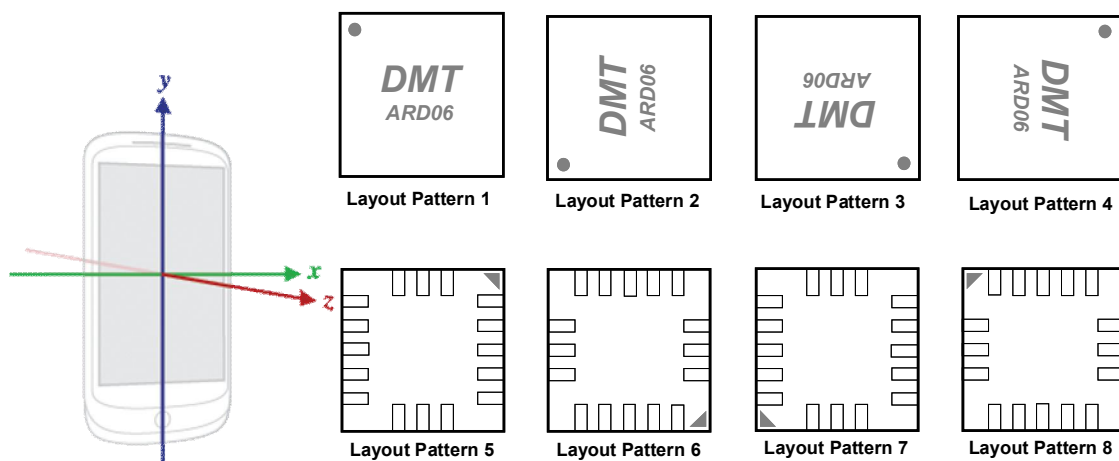

Figure 1: Android SensorEvent Coordinate System and DMARD06 Layout Patterns
- Specify the g-sensor layout by defining one of the following macro in "dmt050607.h". The example code uses layout pattern 1. See Figure 1 for other g-sensor layout pattern orientations.
The coordinate system used by the Android SensorEvent API is defined relative to the screen of the phone in its default orientation, as shown in the Figure 1. Specify the g-sensor layout to one of the layout patterns illustrated below.